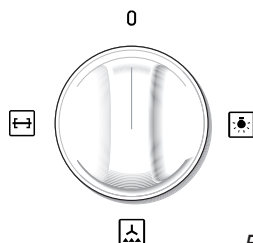

Fig. 2.6a
The fan is controlled by a knob (fig. 2.6a, 2.6b or 2.6c).
- To operate the fan motor turn the knob indicated in fig. 2.6a, 2.6b or 2.6c to  or  position. (In the position  also the rotisserie motor is operating).
To light the oven lamp turn the knob indicated in fig. 2.6a, 2.6b, 2.6c or 2.8 to the  position.
To operate the rotisserie motor turn the knob indicated in fig. 2.6a, 2.6c or 2.8 to the  or  position.